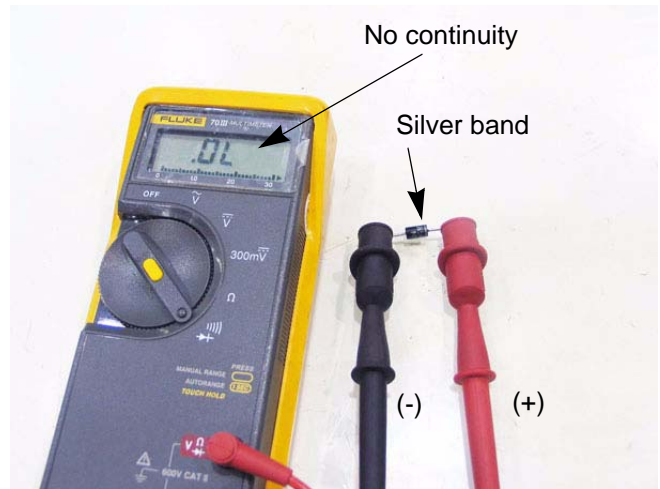

Figure 7.50
7. The meter should indicate no continuity. See Figure 7.50.